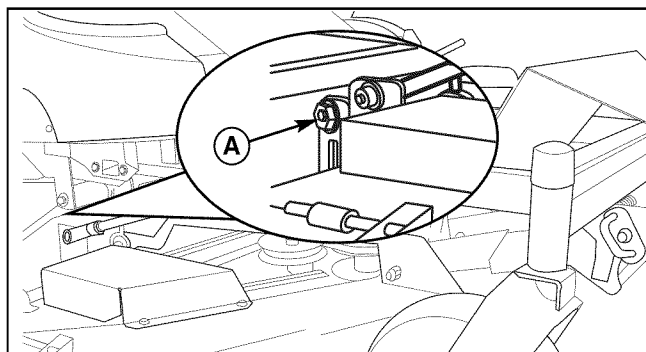

Figure 44. Roller Bar Leveling
5. Locate the roller bar leveling eccentric and locknuts (A, Figure 44). Loosen the locknut and turn the eccentric to raise or lower a side. When the correct level is achieved, hold the eccentric with a wrench and tighten the locknut. Repeat step 4 if necessary.